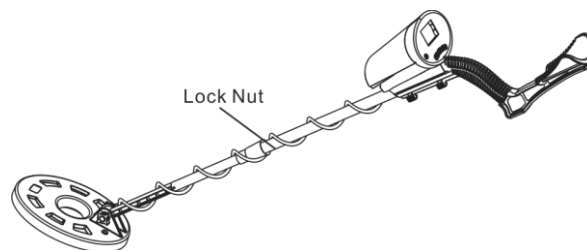
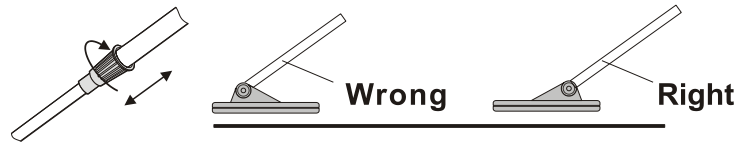

Fig.2
Fig.3
2. Turn clockwise to relax the end of bend-shape tube sleeve,and insert the tube which connect search coil into the sleeve.Adjusting the length,so you can stand comfortably and straighten your arms.Lock the sleeve anti-clockwise when the search coil is from the ground about 1/2 inches.See Fig.2,Fig.3.